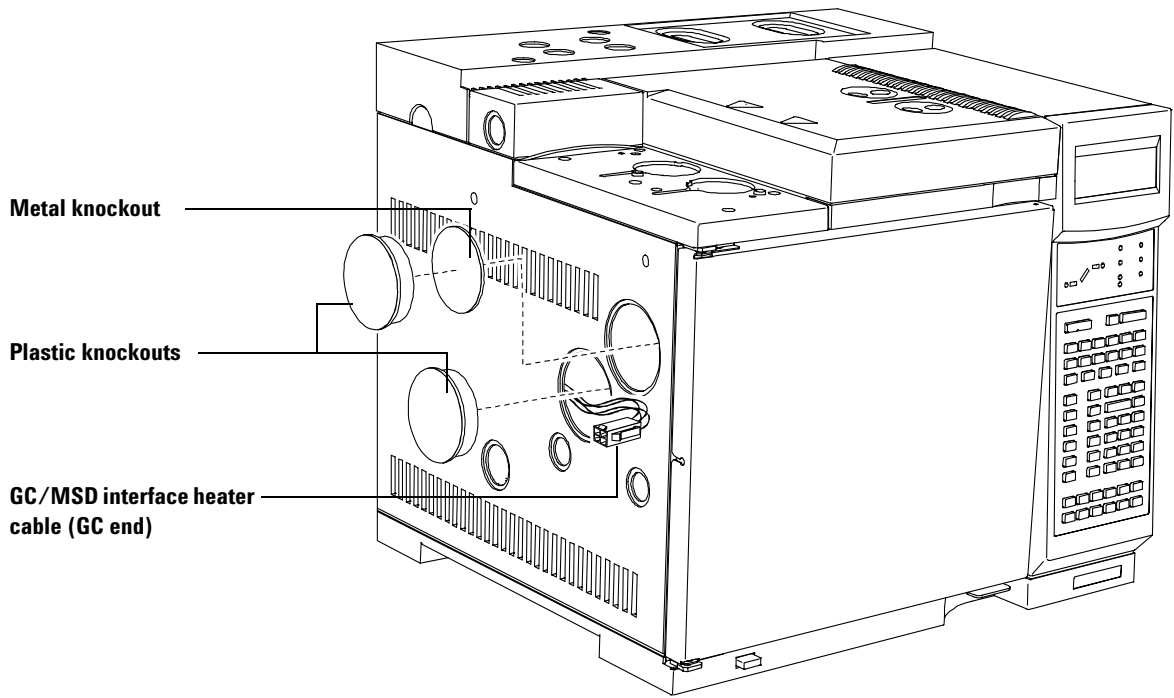

Figure 3 Removing the knockouts
- 3 Remove the metal upper front knockout from the interior oven wall, using a flat-blade screwdriver (see Figure 3).